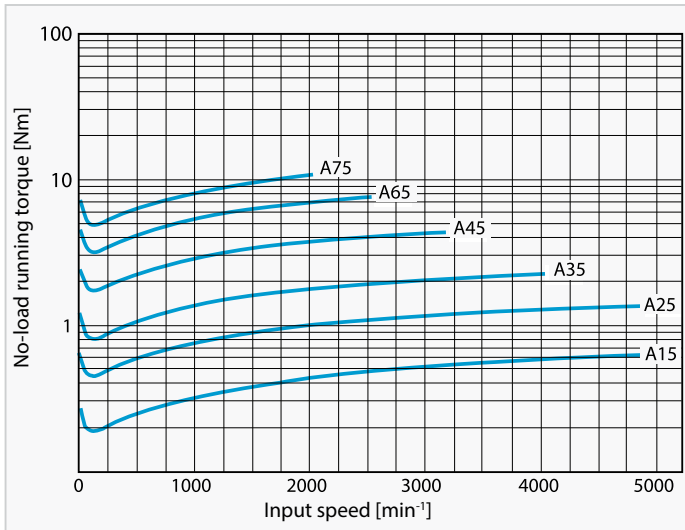
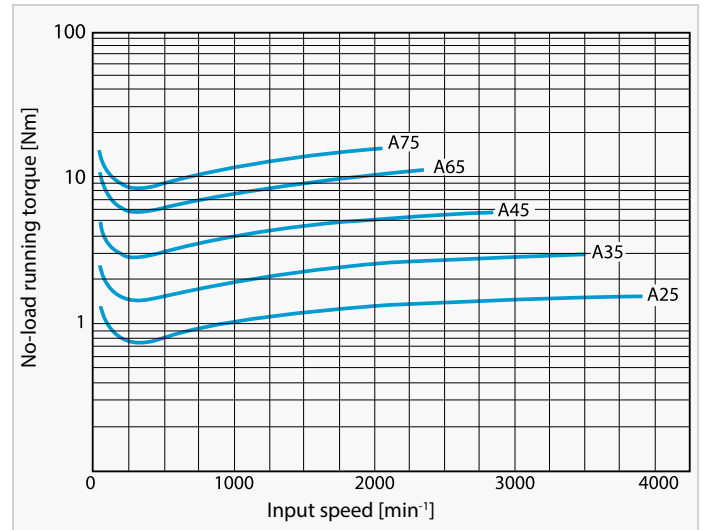

Fig. A1 Input side no-load running torque ($i = 59-119$)
Fig. A2 Input side no-load running torque ($i = 29$)
1. Fig. A1 and Fig. A2 show the average no-load running torques after gearbox is run in (not new condition)